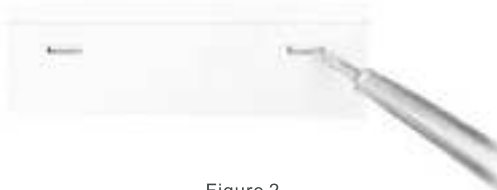

Figure 2
2. See figure 2, open the surface shell and the bottom shell, according to the alignment direction, route the desired wire through the back of the case to the wire slot, and according to the actual situation to set aside about 20CM length.